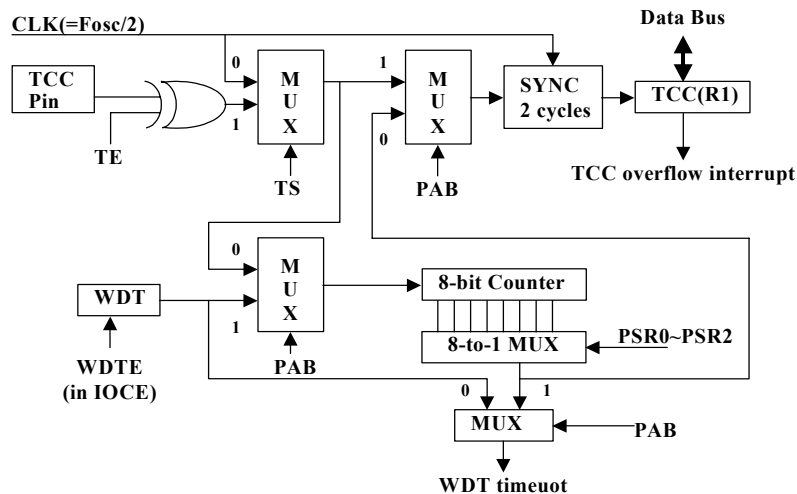

Fig. 6 TCC and WDT Block Diagram
An 8-bit counter is available as prescaler for the TCC or WDT. The prescaler is available for either the TCC or WDT only at any given time, and the PAB bit of the CONT register is used to determine the prescaler assignment. The PSR0~PSR2 bits determine the ratio. The prescaler is cleared each time the instruction is written to TCC under TCC mode. The WDT and prescaler, when assigned to WDT mode, are cleared by the “WDTC” or “SLEP” instructions. Fig. 6 depicts the circuit diagram of TCC/WDT.
- R1 (TCC) is an 8-bit timer/counter. The clock source of TCC can be internal or external clock input (edge selectable from TCC pin). If TCC signal source is from internal clock, TCC will increase by 1 at every instruction cycle (without prescaler). Referring to Fig. 6, $CLK = F_{osc}/2$ or $CLK = F_{osc}/4$ selection is determined by the CODE Option bit CLK status. $CLK = F_{osc}/2$ is used if CLK bit is "0", and $CLK = F_{osc}/4$ is used if CLK bit is "1". If TCC signal source comes from external clock input, TCC is increased by 1 at every falling edge or rising edge of TCC pin.